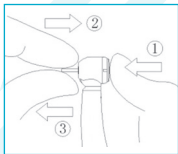

Fig. 8-1
Carefully press the push button with your thumb and simultaneously insert the carbide bur or diamond bur (Fig.8-1①②).
Press the push button with your thumb and simultaneously pull out the carbide bur or diamond bur (Fig.8-1①③).